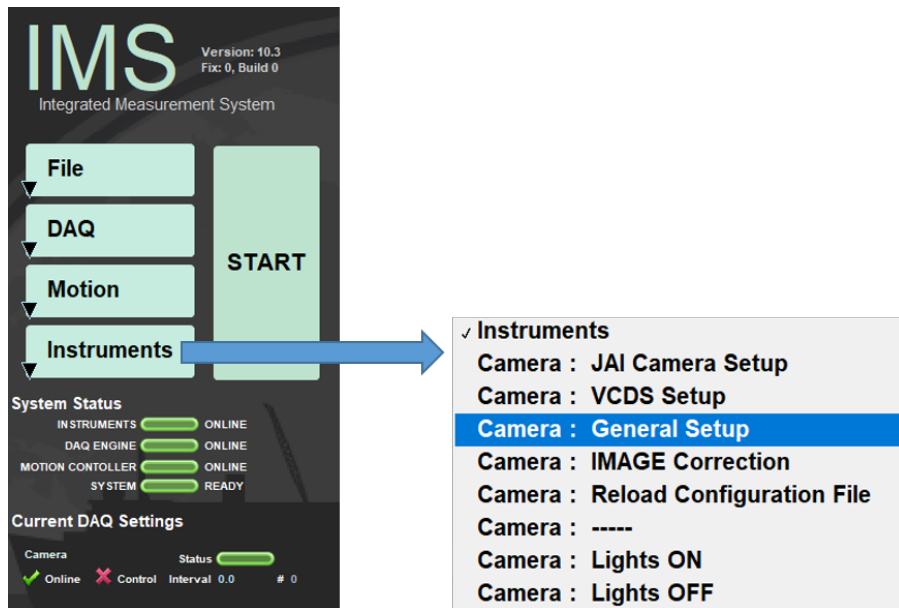
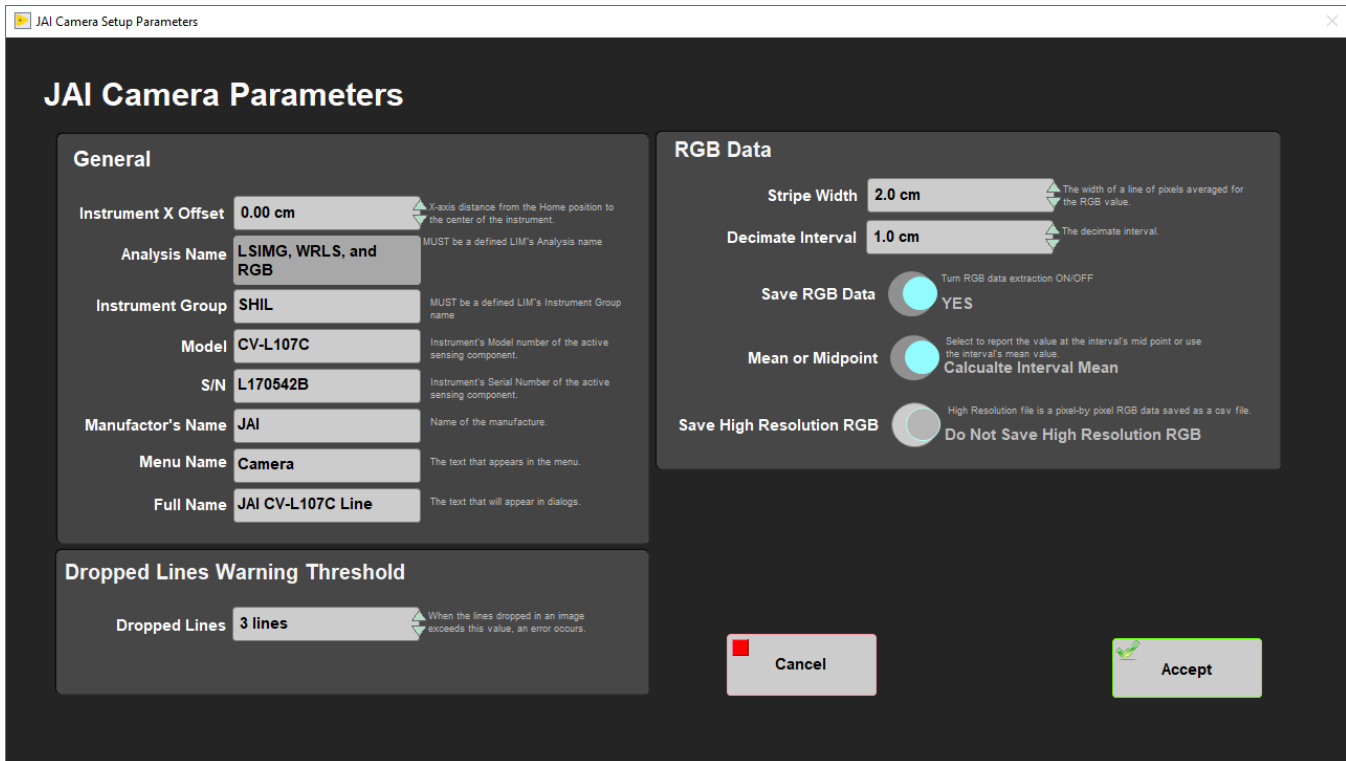

Figure 6. Select JAI Camera Setup Parameters window
Figure 7. JAI Camera Setup Parameters window
1. Go to **Instruments > Camera: General Setup** (Figure 6). The JAI Camera Setup Parameters window will appear (Figure 7).
Hi RES RGB: This file default is turned off and can be turned on in **Instruments > Camera: General Setup** (Figure 7). The Hi-Res RGB file reports a Red, Green, and Blue value for each line of pixels down the length of the core. 1cm is 200 lines of pixels so a 150cm core will yield approximately 30,000 lines of data depending on the exact crop length. The file is not currently uploaded to the database and is instead copied to data1 at the end of the expedition. The files can be put on the server for scientist access to a convenient, shared location such as UserVol.